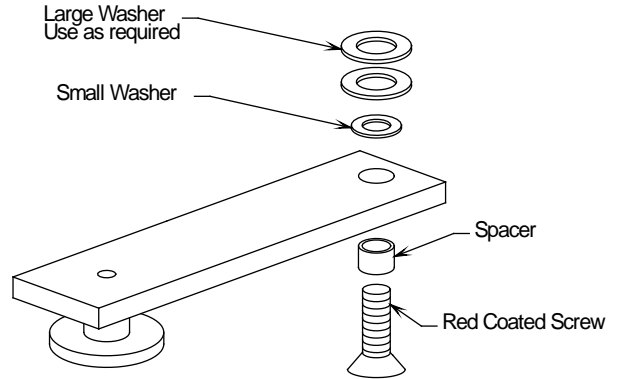

Figure 14
14. Assemble the limit arm. (See Figure 14) Rest the wheel of the limit arm inside the upper rail of the swing panel. Install the red-coated screw into the factory-drilled hole on the bottom of the header. Use one or two large washers as required.